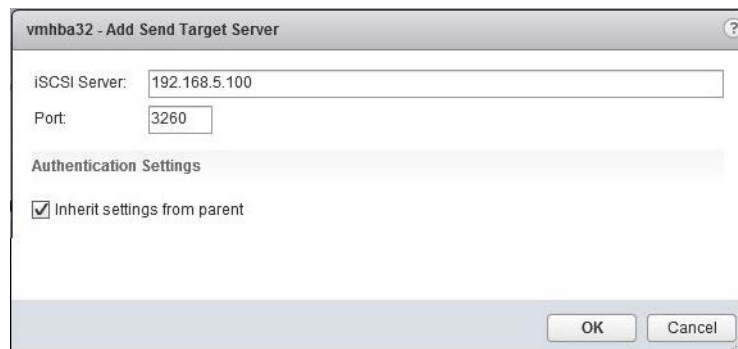

Figure 3-6. Add Send Target Server
1. Complete the **Add Send Target Server** dialog box as shown in Figure 3-6: